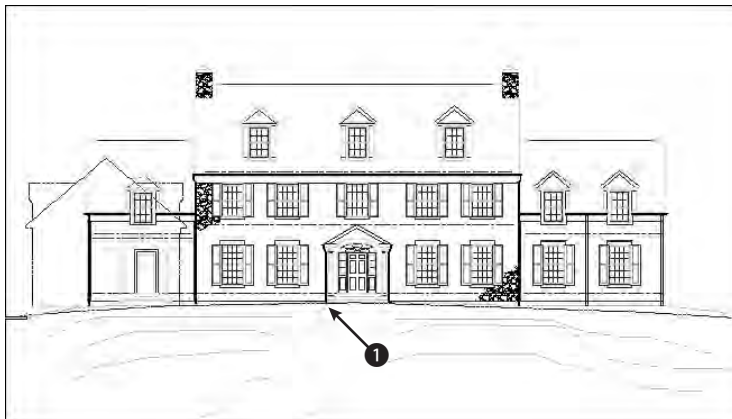

Figure 16-49: A sketched path and contours
2. Save the file as *ab16-10.dwg* in your AutoCAD Bible folder. It shows the front elevation of a house. You will add the sketched path and contours, as shown in Figure 16-49.
5. At the Sketch. Pen eXit Quit Record Erase Connect. prompt, move the cursor to ❶ in Figure 16-49. Click the pick button to put the pen down and draw the first line of the path. Click the pick button to put the pen up.
6. Use the same technique to draw the other lines in Figure 16-49. If you make a mistake, type **q** ↵ to quit and then start again.